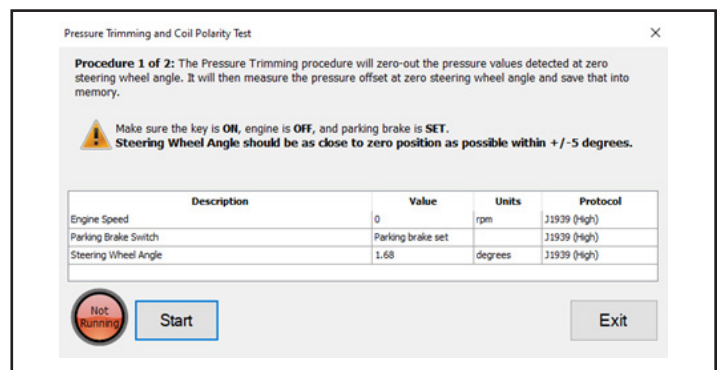

Figure 1 – Pressure Trimming Procedure
1. Select *Pressure Trimming and Coil Polarity Test* and press *Enter* or the *Start* icon. Test dialog for procedure one (1) of two (2) will be displayed. See *Figure 1*.